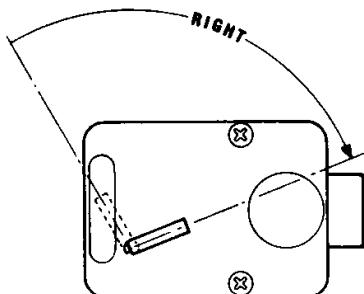

Figure 1
2. With the last number set at the changing index, hold the dial securely and insert the change key in the keyhole in the back of the lock. Make sure the wing is entirely inside the lock and comes to a positive stop (see Figure 1) before turning the key.
6. Turn the dial to the LEFT, stopping when the third number is aligned with the CHANGE Index, the SECOND time. Holding the dial in this position, turn the change key back to the LEFT and remove it. (See Figure 1.) The new combination you have chosen is now set in the lock,